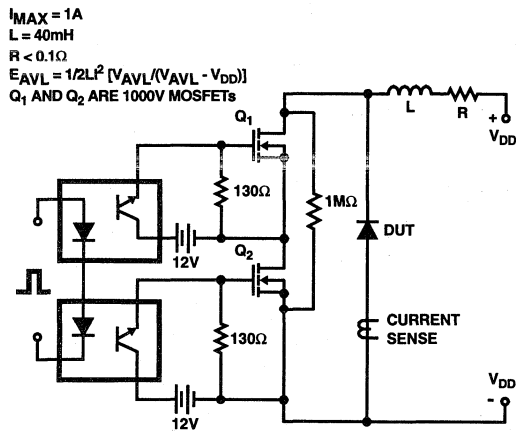

FIGURE 10. AVALANCHE ENERGY TEST CIRCUIT
- $E_{AVL}$  = Controlled avalanche energy (See Figures 10 and 11).